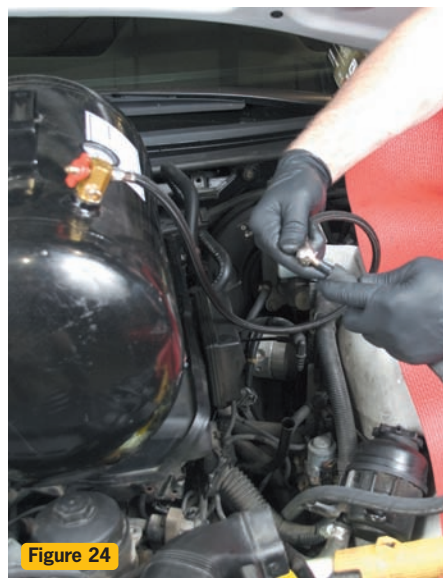

Figure 24
24. Clean the sludge from the oil return tube on the dipstick tube assembly. There is a 90-degree bend at the base of the dipstick oil return tube, just before it joins the main dipstick tube (where the dipstick goes through). Anything you insert into the tube to clear through the sludge will not go past the 90-degree bend. Connect a length of hose to the oil return nipple and try to blow through it (with the oil cap and/or the dipstick removed). If you cannot freely blow through the hose, the oil return is clogged. The easiest way to remove the clog is to apply compressed air to the oil return tube. This can be accomplished via a blow-gun (connected to a compressed air source) applied to the hose, connected to the oil return, or some similar type of set-up. Once the clog is blown through (into the oil pan), continue to apply the air in order to push the majority of the sludge through the tube (fig. 24). Alternately, you can remove the dipstick tube as outlined in the Bentley manual (page 110-13), and clean it out.